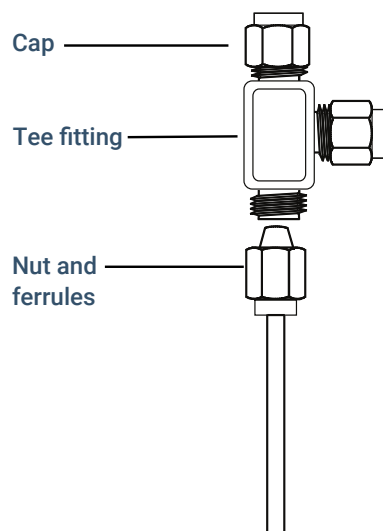

Figure 30. Swagelok tee
1. Cut the tubing where you want to install the Tee. Connect the tubing and Tee with a Swagelok fitting. See **Figure 30**.